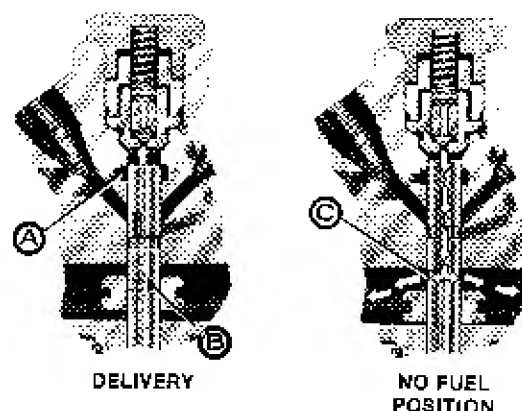

FIGURE 3-21. PORT CLOSING
As the plunger is cammed upward, the fuel fill port (A) is closed cutting off the fuel supply to the open center of the plunger, Figure 3-21. This is the critical port closing (PC) point of the injection pump that corresponds with the PC mark on the rim of the flywheel. As the metering sleeve moves upward on the plunger, it closes off the spill port (B). Now, as the plunger moves upward, the fuel trapped above its top end builds up pressure and lifts the delivery valve off its seat and the high pressure fuel is ported via the distributor-groove on the plunger upper end to one injector line. As the plunger reaches the upper end of its movement, the spill port (C) clears the sleeve allowing the high pressure fuel to spill into the sump.